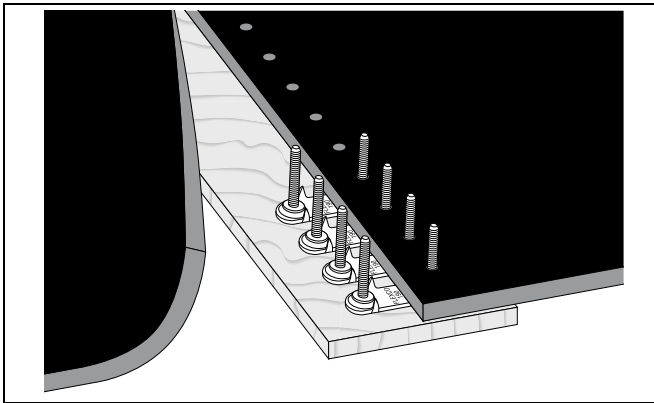

Figure 4G
4. Assemble bolts in bottom plates. Snap clip over heads of bolts. Fold one end of belt back out of the way. Then insert bolts from under side along one row of holes. (See Figure 4G.)